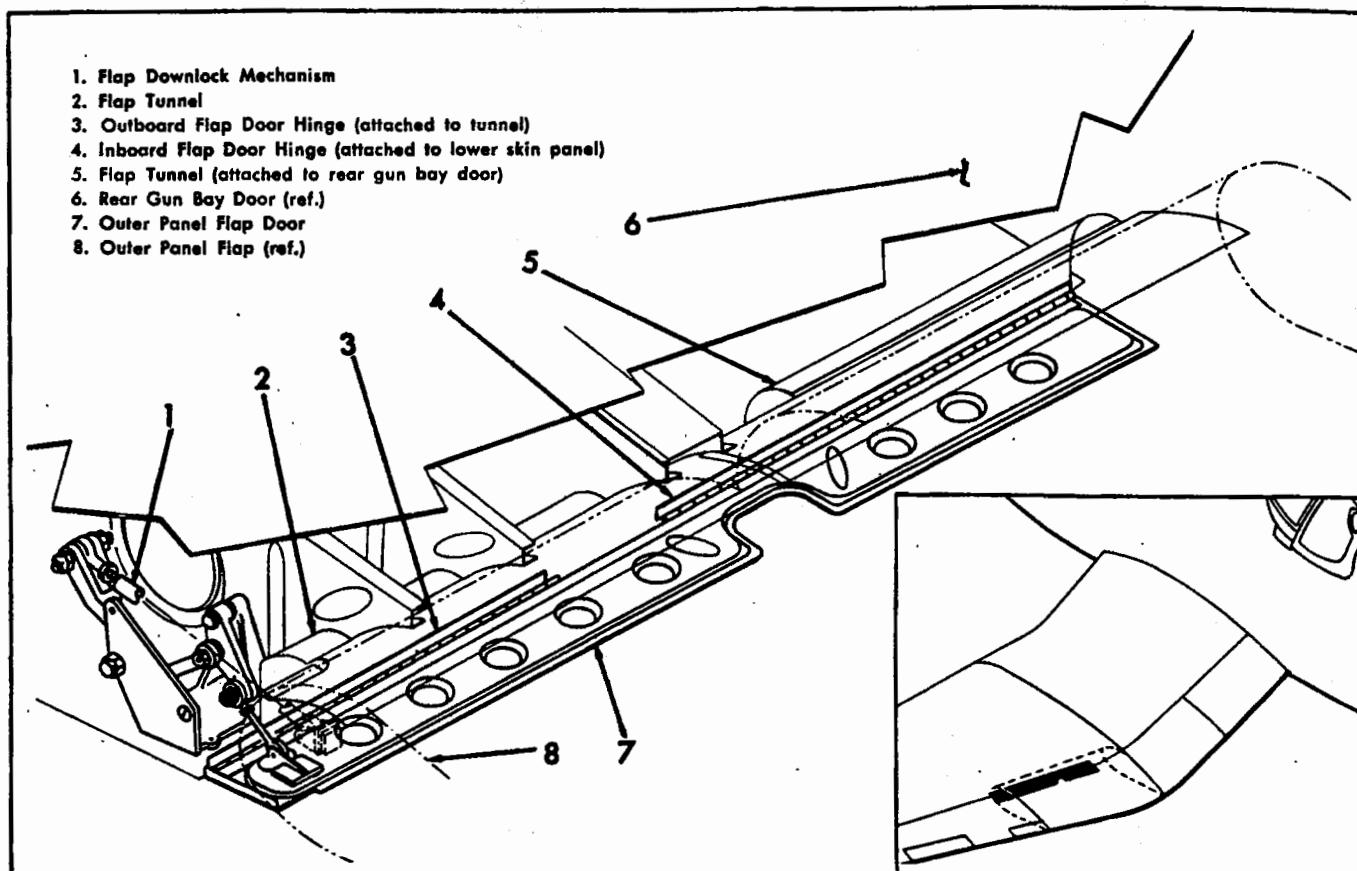

Figure 4-11. Outer Panel Flap Door Installation.
4-51. DESCRIPTION. (See figure 4-11.) Each outer panel flap gap closing door consists of a single panel, extending along the lower aft edge of each outer panel. The door (7) is actuated by linkage connected with the flap downlock mechanism (1) which is, in turn, connected with the flap (8). As the outer panel flap is deflected downward, the flap doors rotate upward, permitting a flow of air to pass through the slot.
4-52. REMOVING. (See figure 4-11.)
4-55. ADJUSTING. (See figure 4-11.)